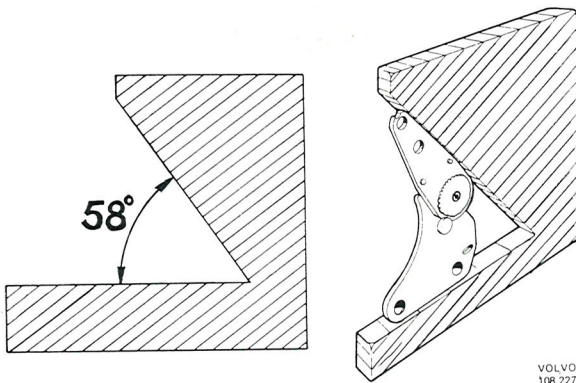

Fig. 8-55. Template, lever adjustment
1. Make a template for alignment of the seat reclining mechanism, see Fig. 8-55. Use a screwdriver to align the mechanisms according to the template.